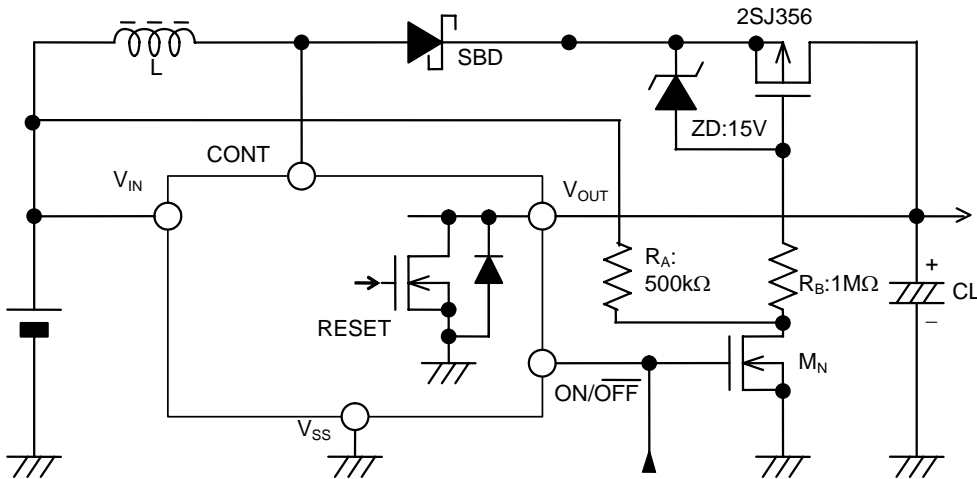

Figure 7 Circuit Example Using 2SJ356
Figure 7 shows a circuit example using the NEC 2SJ356 (Pch MOS FET) as a current cutting switch. This circuit example turns ON and OFF the 2SJ356 in connection with the reset signal to the power off pin using a small signal transistor M_{N} (Nch MOS FET). A Zenor diode (ZD) is used for the purpose of clamping voltage so as not to apply high voltage (20V or more) of the rated voltage between the gate and the source of the 2SJ356. However, when the circuit is used at 20 V or below, a Zenor diode is not needed. Invalid current flowing into resistors R_{A} , R_{B} during step-up operation may affect the efficiency. Set R_{A} , R_{B} to the maximum level. If you set the resistance of R_{A} to the high value, a drop in the voltage occurs in resistor R_{A} due to off current of M_{N} and the current cutting switch 2SJ356 does not normally function. Be careful (Note that the efficiency characteristics shown in the reference data were measured without attaching a current cutting switch and is different from that shown in this example).